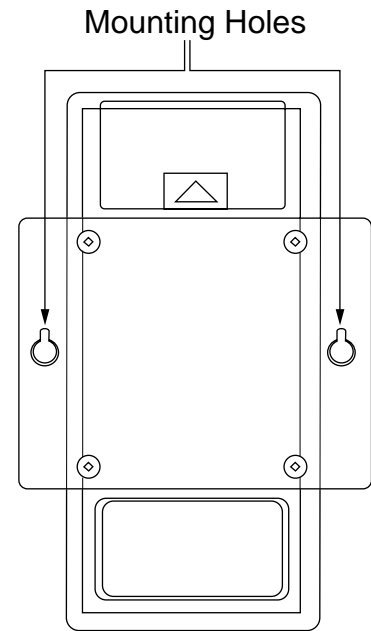

Figure 3. The Mounting Plate
1. Place the mounting plate against the surface where you intend to mount the Link Module and use it as a template to mark where the two drill holes will go (approximately 2 7/8 inches, 73mm, apart). See figure 3.